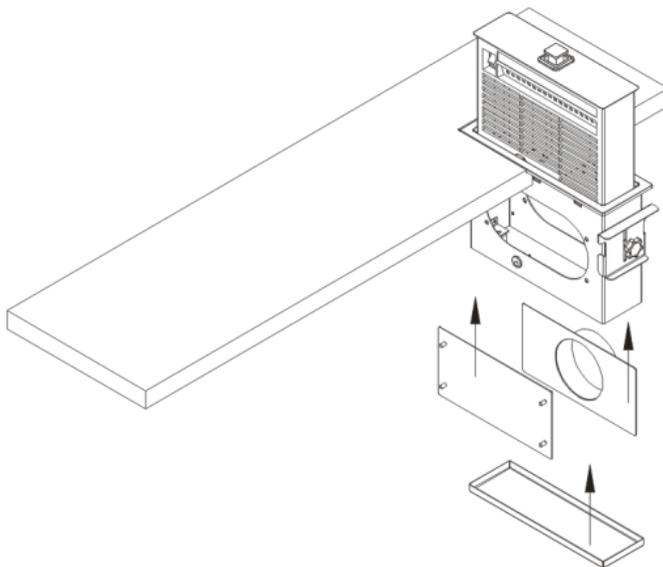

Fig. 11.1 – Installation of Blank-Off Plate and Outlet Flange
- 5.11 Remove the Access Cover, which is secured by two magnets, from the bottom of the unit. There are two (2) Outlet Ports on the unit, with one on each side of the Housing. Generally, one shall be blanked-off and the other used for connection with a duct to the HealthyAir[®] Air Purification System. Install the Blank-Off Plate on one side and the Outlet Flange on the other side, by passing them thru the opening at the bottom of the Housing, as shown in Fig. 11.1, and mounting them on the (4) Stud Screws, respectively. Using the Hex Nuts, tighten and secure the Outlet Flange and the Blank-Off Plate. Finally, reinstall the Access Cover.